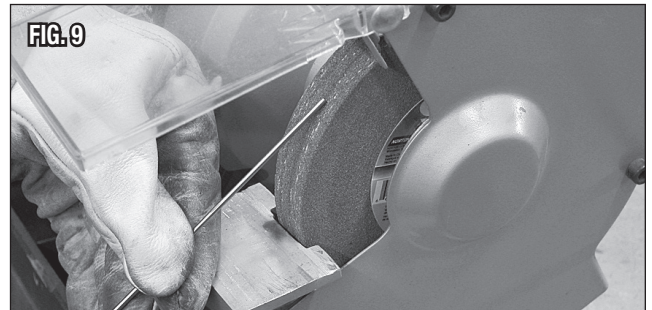
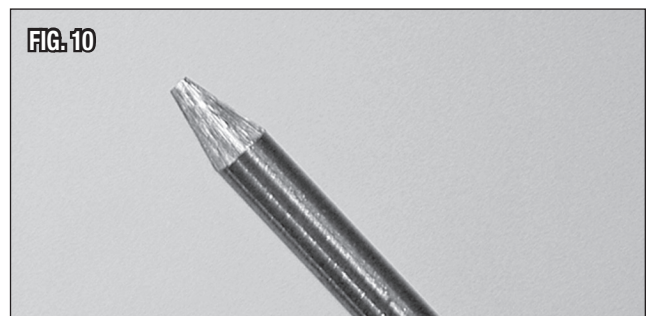

FIG. 9
FIG. 10
- Holding the Tungsten tangent to the surface of the grinding wheel, rotate the Tungsten while exerting light pressure until a suitable point is formed (FIG 9). The ideal tip will have the length of the conical portion of the sharpened area at 2-1/2 times the Tungsten rod diameter (FIG 10).